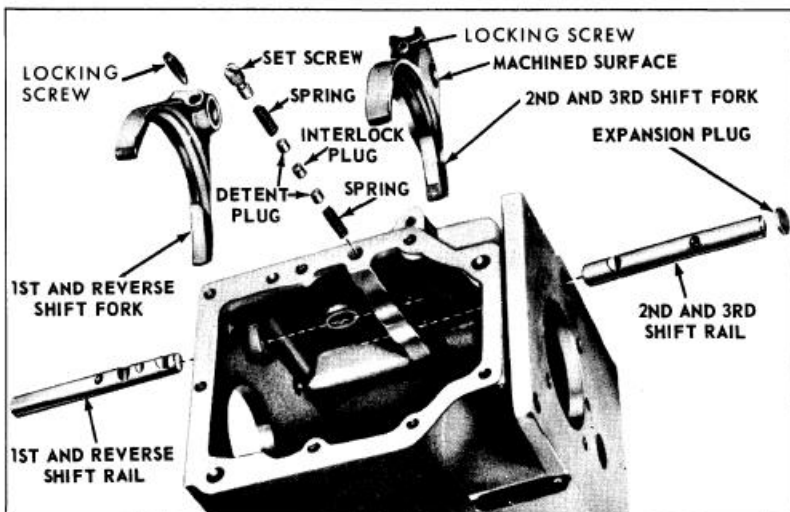

Figure 4-6—Shift Rails, Forks, and Detent Plugs
6. Remove set screw, spring, interlock plug, detent plugs, and spring. See Figure 4-6.
7. With transmission in neutral, remove shift fork to rail locking screws. See Figure 4-6.